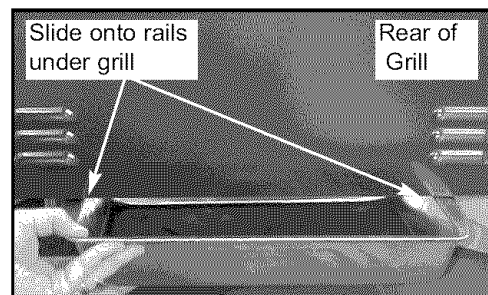

Fig. 15
1. The drip pan is located under the grill head. Slide Drip Tray in from the rear of the grill and cart, fitting the ledges on the two rails that are located on the bottom of the grill. (See Fig. 15)